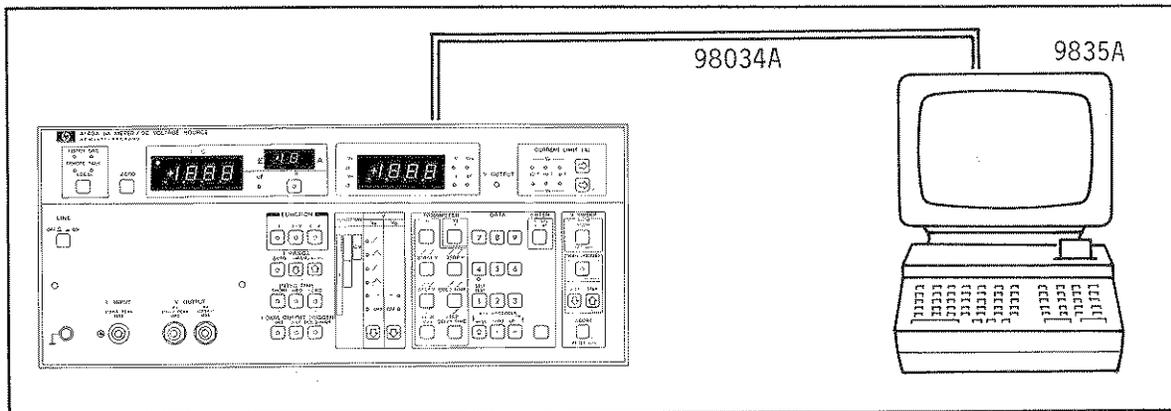

Figure 4-9. HP-IB Interface Test Setup.
2. Connect 98034A HP-IB Interface Card with cable between 9835A I/O slot and 4140A rear panel HP-IB connector as shown in Figure 4-9.